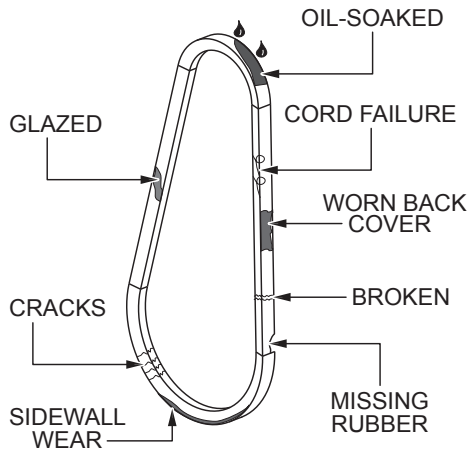

Figure 22. V-Belt Inspection
1. Inspect the V-belt (Figure 22) to determine if it is frayed, peeling, full of tiny cracks, has pieces of rubber missing, or is otherwise damaged.
2. Inspect the V-belt (Figure 22) to determine if it is oil-soaked or glazed (a hard, shiny appearance on the sides of the belt). Either of these conditions can cause overheating of the belt, which may weaken the belt and increase the danger of it breaking.